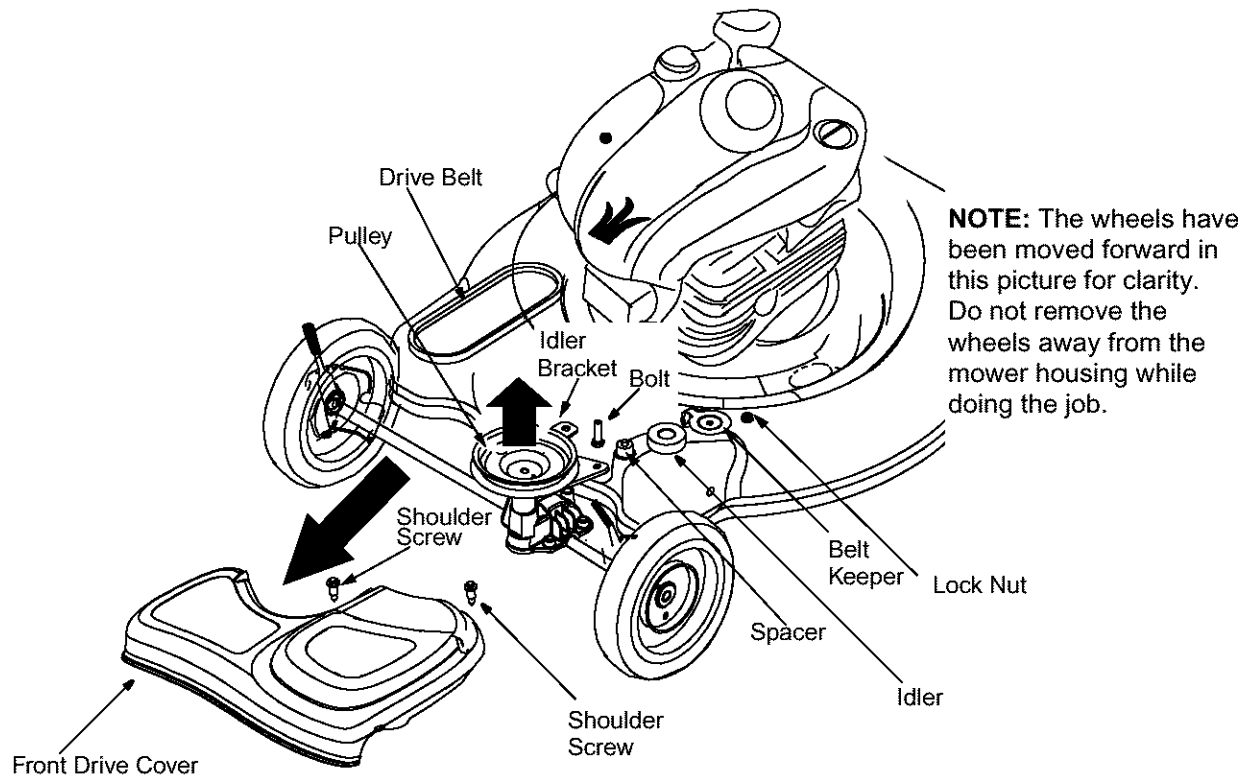

Figure 13
- Remove the two shoulder screws from on top of the deck which secures the front drive cover to the mower deck. See Figure 13.
- Remove the idler and related hardware from the idler bracket using 7/16" wrench and socket. See Figure 13.